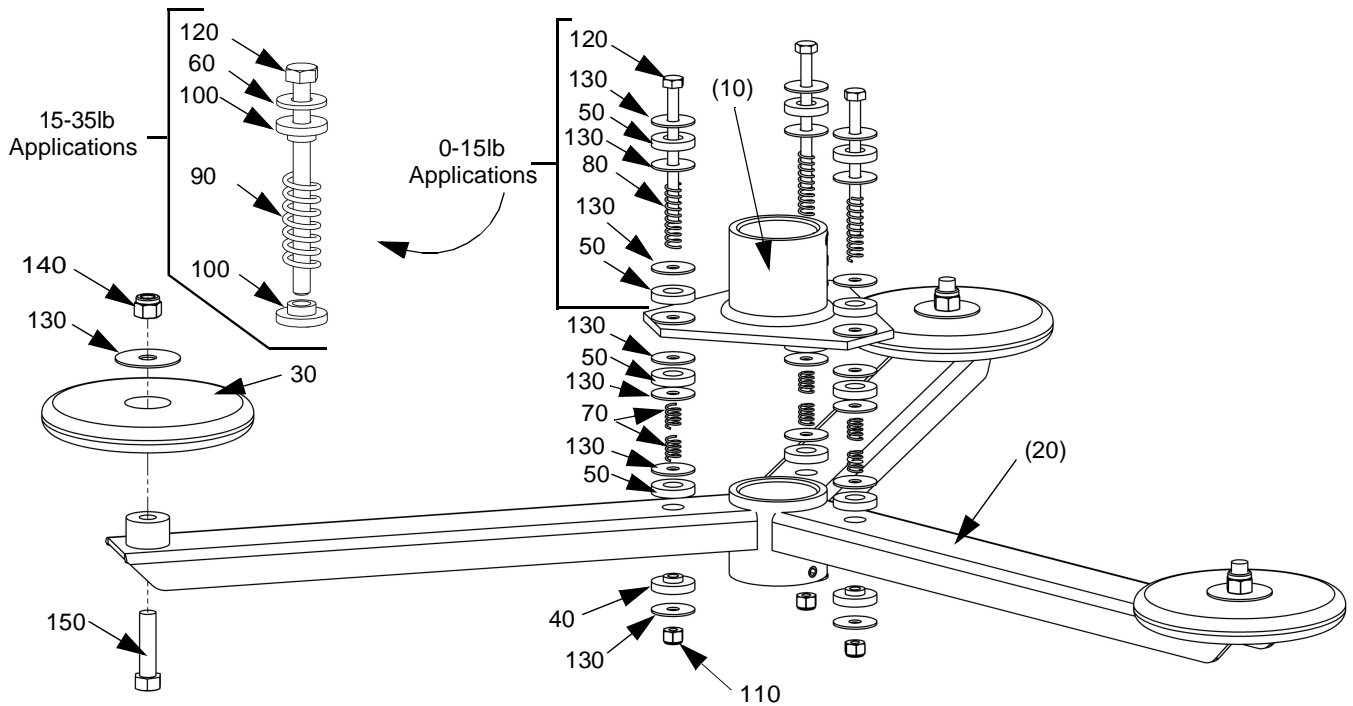

Figure 1: CMA-347 Parts
1. Carefully inspect the mount for shipping damage (see figure 1). If any damage is apparent, call your carrier claims agent and do not continue with the installation until the carrier has reviewed the damage.